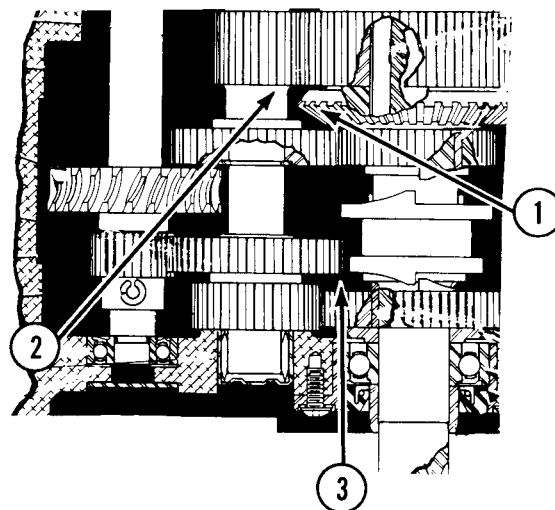

Fig. 3-11
- J. Turn the center (planetary) shaft so the teeth of bevel gear (1, Fig. 3-11) will pass those on transmission shaft gear (2, Fig. 3-11).
- M. Remove clutch sleeve and shifter yoke (Fig. 3-14). When removing the clutch sleeve notice that the smaller diameter is down. This allows clearance for gear (3, Fig. 3-11) on the transmission shaft.